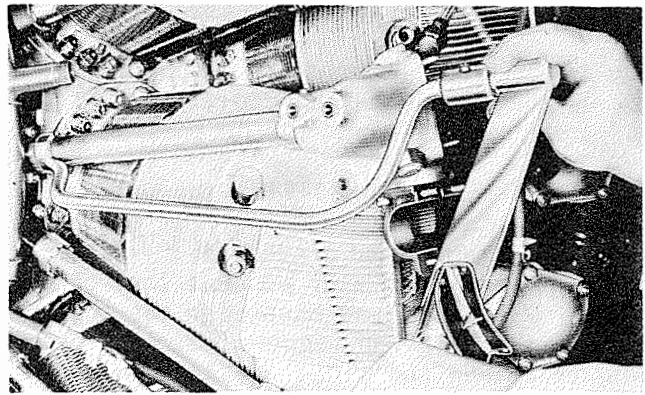

Figure 7-58. Torquing Push Rod Housing Nut at Adapter
i. Torque the nut at the adapter to 100 - 125 inch-pounds using wrench 805965. See figure 7-58. Use wrench 806487, universal joint 806517, and extension 806518 at a rear cylinder when intake pipes interfere.